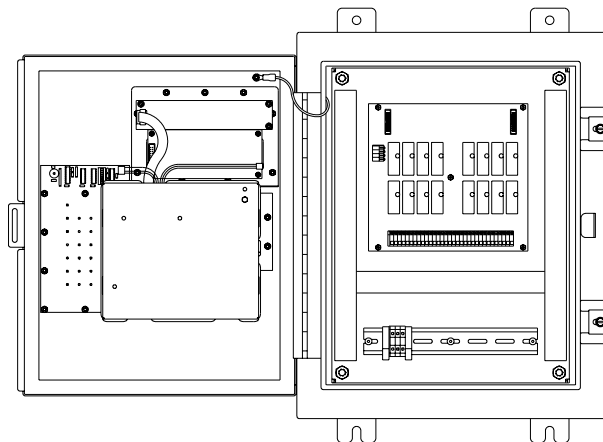

Figure 2-9: 663 Internal View
5. Locate the main board near the middle right of the controller door interior (see Figure 2-9).